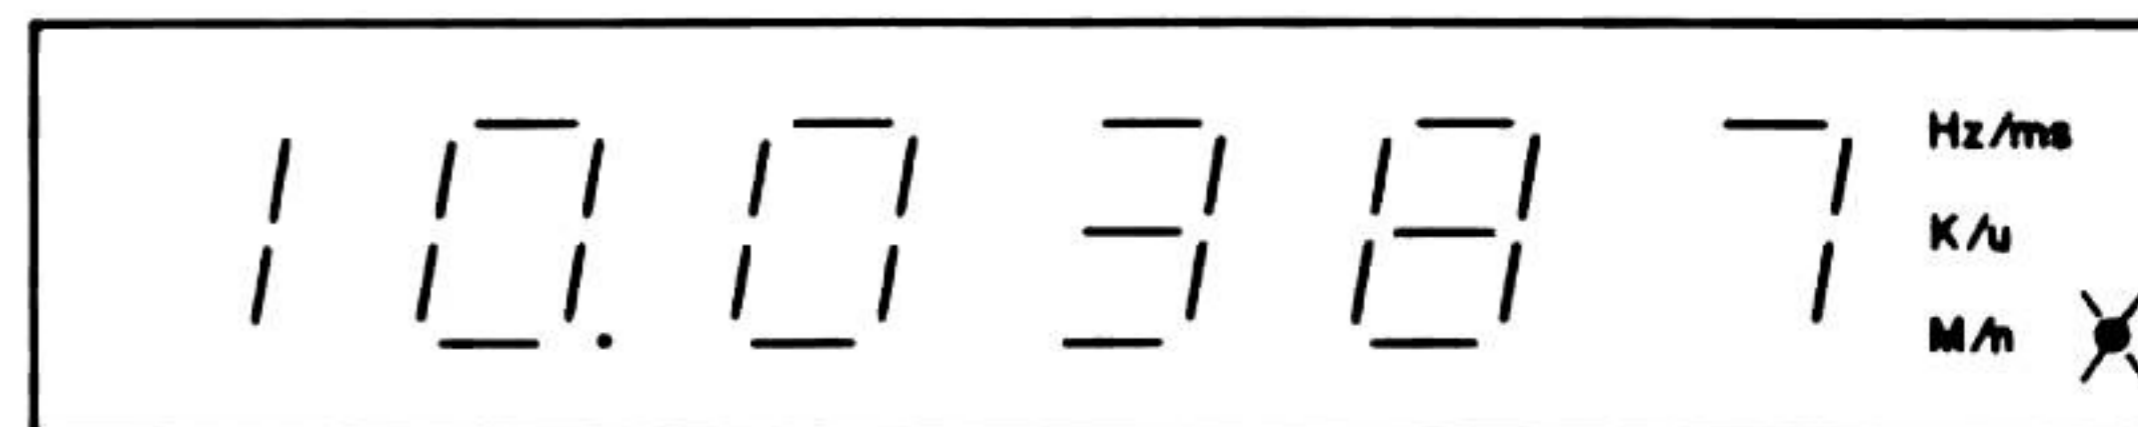

Fig. 9 Display for 10,038,725 Events
6. The display will show the events accumulated up to a total of 999,999 and will update in a continuous fashion. At one million events the unit begins displaying the count in a floating format. The six most significant digits of the count are displayed with decimal point. The "M" annunciator is illuminated to indicate a display multiplier of one million. For example, after 10,038,725 events the display would look as shown in Fig. 9. At one billion events overflow is indicated by a dashed line across the display.